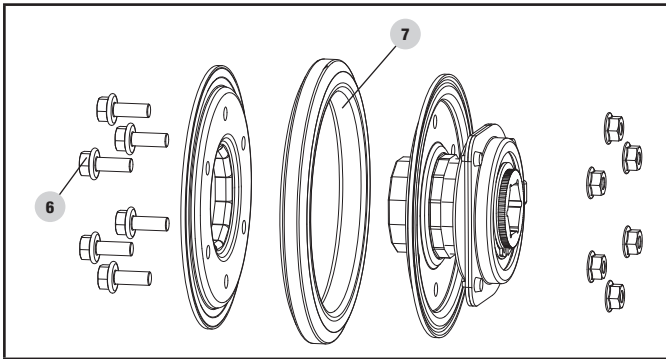

Figure 35
- Unscrew the six M6 × 16 bolts (6) of the friction disc assembly to discard the worn friction wheel rubber ring (7) and replace with a new one (Fig. 35).